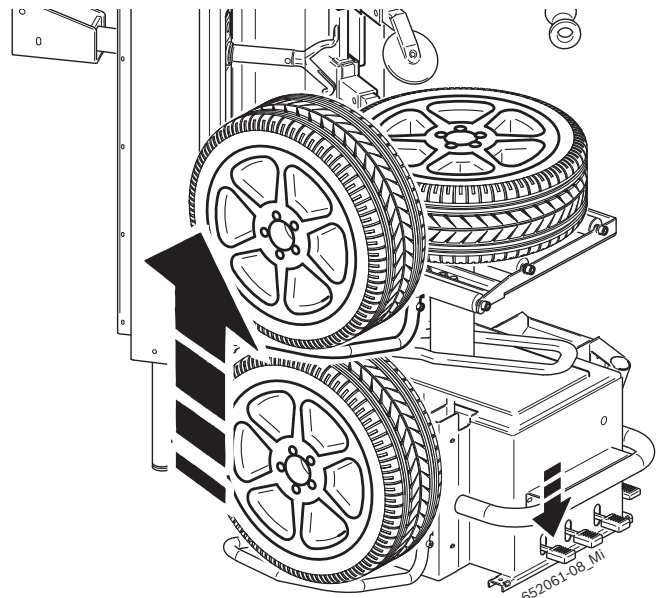

Fig. 3: Wheel lifting and movement towards the right.
4. Lift the wheel with the wheel lifter pedal until the upper limit stop is reached (Fig. 3).